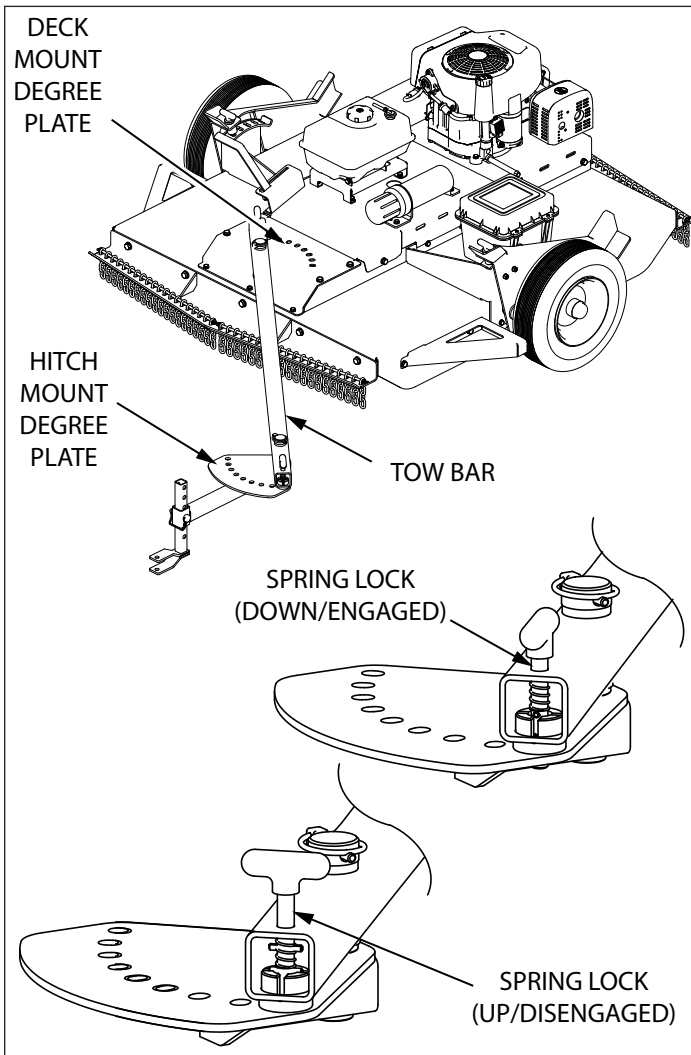

FIGURE 7: Tow Bar Offset Adjustment
- a. Lift the spring loaded tow bar locking pin knob and turn 90 degrees to lock in the up/disengaged position. **SEE FIGURE 7**